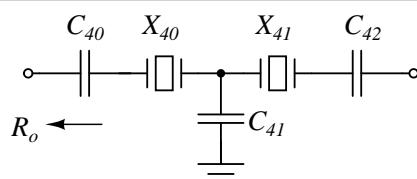

Figure 4: IF Filter schematic.
- The IF filter of TRC-11 is given in Fig. 4. Start building the filter by placing the crystal X40 and its corresponding series capacitor C40 in their places. Solder them. If you found that you do not need a series capacitor, place short-circuiting wire in place of C40.